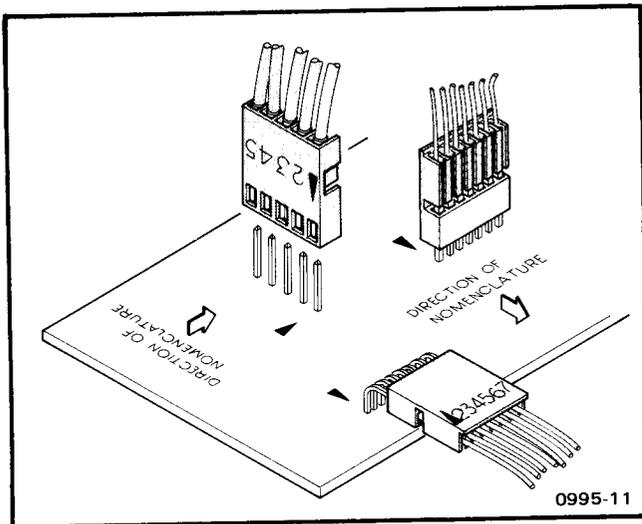

Fig. 4-1. Multipin (harmonica) connector configuration.
**Multiple Terminal (Harmonica) Connectors.** Some intercircuit connections are made through pin connectors that may be mounted in a harmonica type holder. The terminals in the holder are identified by numbers that appear on the holder and the circuit diagrams. Connector orientation to the circuit board is keyed by triangles on the holder and the circuit board (see Fig. 4-1). In some cases, the triangle or arrow is screened on the chassis adjacent to the connector. Some connectors contain more than one section. Connectors are identified on the schematic and board with a "P" or "J".